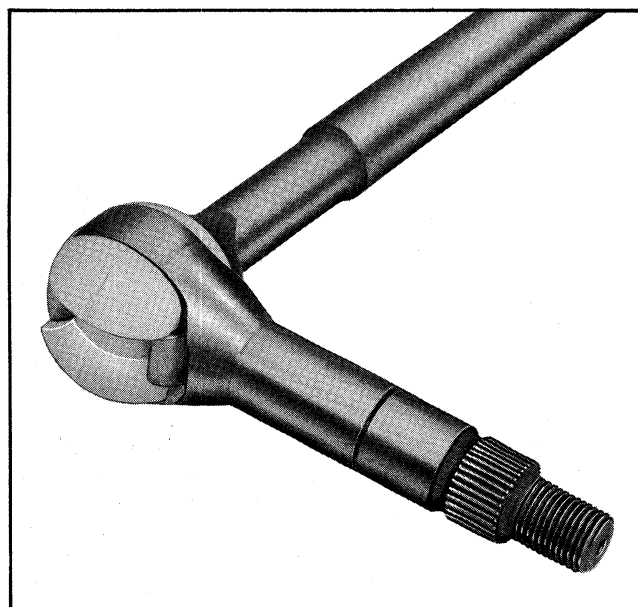

Fig. 9-18 Separating Upper and Lower Shaft
2. Turn upper shaft 90° from centerline of lower shaft and remove shaft over flats of centering sphere (Fig. 9-18).